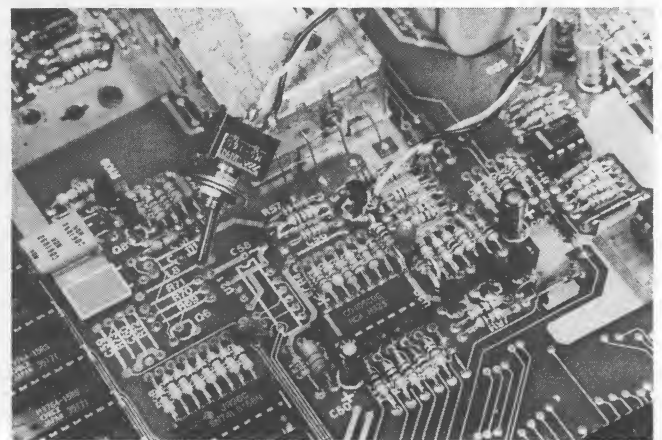

Figure 6. 800XL motherboard after Super Video modification. Note CV Disable switch, empty space for C56, doubled resistors, tantalum capacitor.
Step 1. Locate resistor R53. It will be either 390 ohms (orange-white-brown-gold) or 100 ohms (brown-black-brown-gold). Solder a resistor in parallel with R53 as follows: If R53 is 390 ohms, solder a 100-ohm resistor (brown-black-brown-gold) on top of it in parallel (see Fig. 6); if R53 is 100 ohms, solder a 330-ohm resistor (orange-roange-brown-gold) on top of it in parallel. (This restores the mono output impedance to the correct value.)
pose of this switch is to enable composite video for users whose color monitor accepts composite video only. Those who use luma or luma-chroma interfaces should toggle the switch to disable composite video. A cleaner signal, free of color clocking interference that makes the screen background grainy, will be obtained. Cut two 8" lengths of wire and strip 1/4" insulation from one end of each. Solder the stripped ends of each wire to the two lugs on the switch. Twist these wires lightly as shown in Fig. 6. At the unattached ends, snip off 1" from one of the wires, then strip 1/4" insulation from the ends of both wires. Set the switch assembly aside temporarily.